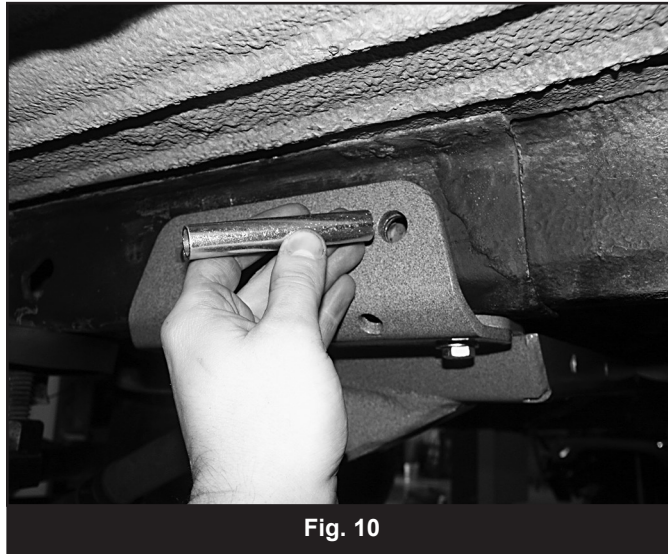

Fig. 10
23. Insert the provided 5/8" x 3-5/8" frame crush sleeve (22) in the 5/8" hole just drilled in the frame (Fig 10). Do not push it all the way in at this time.